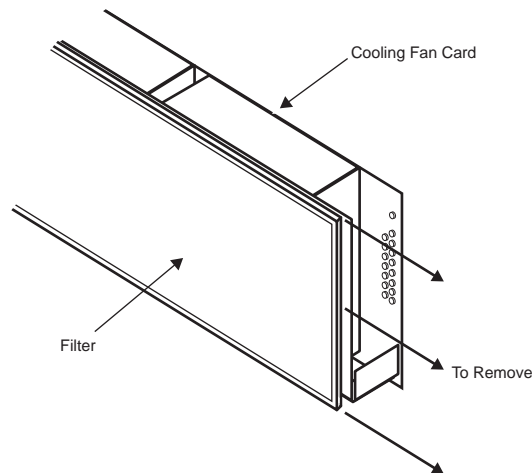

Figure 18.12 Fan Carrier and Filter (QMD Shown)
2. Locate the air filter on the far left side of the frame (**Figure 18.12**), next to the Fan Carrier assembly.